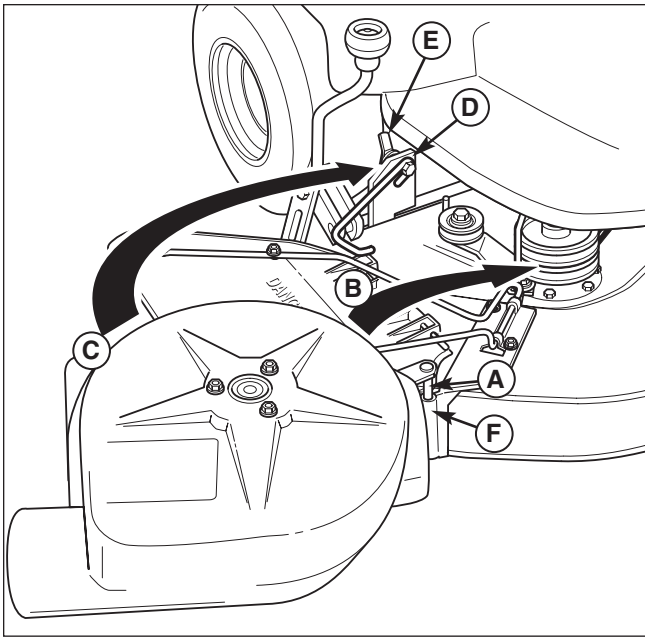
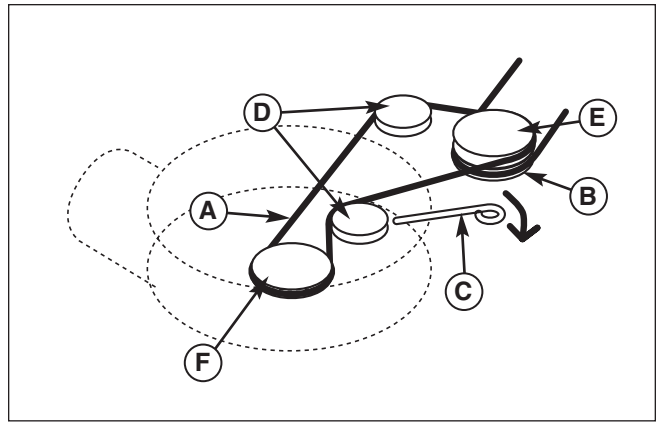
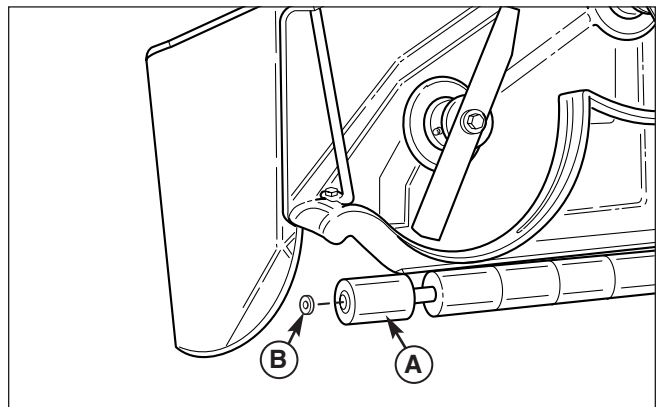

Figure 19. Install Turbo Blower
Figure 20. Turbo Belt Routing
Figure 21. Remove Right Side Pushnut and Roller
2. Slide the pivot pin (A, Figure 19) into pivot bracket (F).
3. Raise the deflector (B).
4. Rotate the turbo (C) and “latch” the slot in the turbo housing over and onto the anchor bracket (D). Slot in mounting latch (A, gure 17 & 18) to be around outside nut. If not - reposition mounting latch on turbo. Tighten the wingnut (E) and cupwasher to secure turbo (C).
5. Attach the mower drive pulley to the mower deck drive pulley (B, Figure 20).
6. Pull back (away from deck) on belt tension lever (C).
7. Install the turbo drive belt on pulleys as shown and release the belt tension lever (C).
8. **Models With Rollers** - Remove and discard the pushnut (B, Figure 21) and roller (A) from the right side of mower deck as shown.